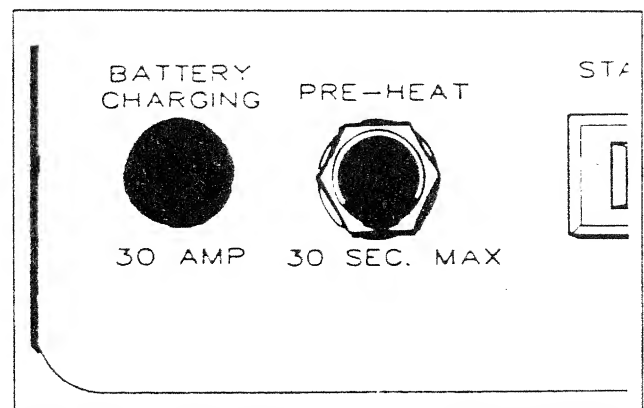

Figure 10 — 30 amp Fuse for Battery Charge Circuit
**30 amp Fuse:** The generator set battery is charged during operation by a d-c alternator, driven by the engine. This 30 amp fuse protects the charging circuit against overload. Should you need to replace the fuse, use only an identical 30 amp fuse (Figure 10).